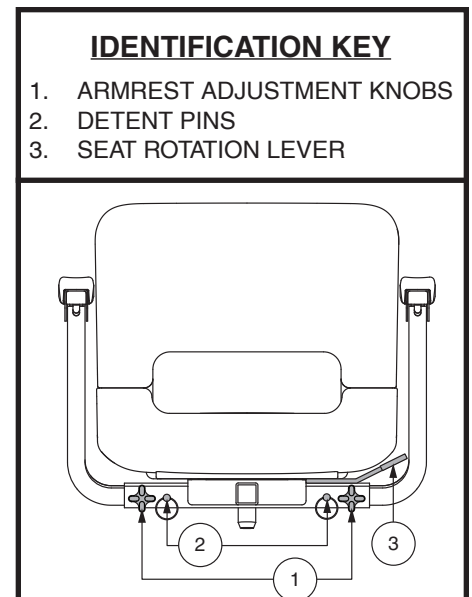

Figure 14. Seat Adjustments
1. Loosen the armrest adjustment knobs. See figure 14.
Armrest angle of your scooter can be adjusted upwards or downwards. To adjust armrest angle, flip up armrest and adjust angle bolt to find desired angle. See figure 14.